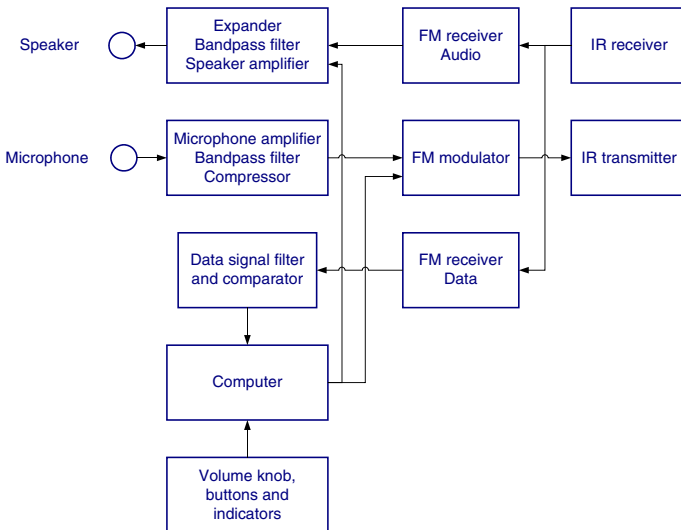

Figure 6.3 - Delegate Unit block diagram
Figure 6.3 shows a block diagram of the Delegate Unit (DU). The infra-red HF signal is received and band-pass filtered by the built-in IR receiver. The resulting signal is sent to the two FM receivers, global audio and data, where it is demodulated.